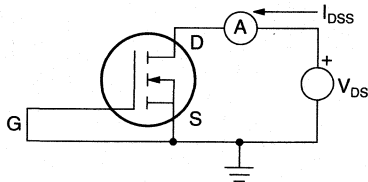

Figure 5: N-Channel I_{DSS} Measurement
- C. I_{DSS} – The zero gate voltage drain current or offstate leakage current. It is determined by applying specified voltage from drain to source (with gate shorted to source) and measuring the resulting current. (See Figure 5 for the measurement circuit.)